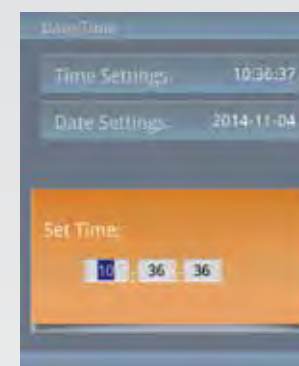

Fig 7.19-1
- d) From the Date/Time menu, use the ▲ or ▼ keys to highlight the Time Settings menu option. Touch **OK** to access the Set Time menu. (*Fig 7.19-1*)